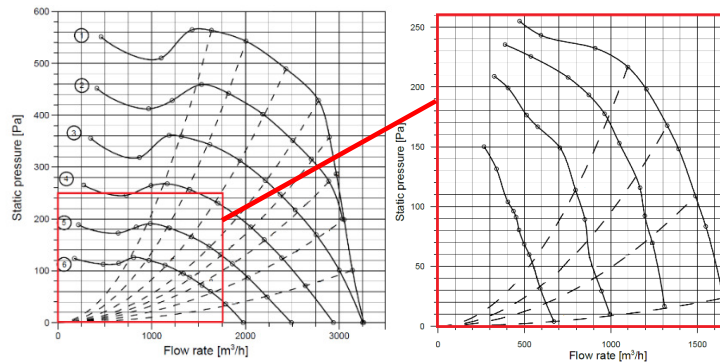

Fig.44 – Performance of the fan to be replaced size 7/7 and performance curve of the DDMP 7/7
- 1) Check the performance curve of the fan to be replaced → it must be a portion of the max performance curve of the chosen DDMP as shown in figure 44.